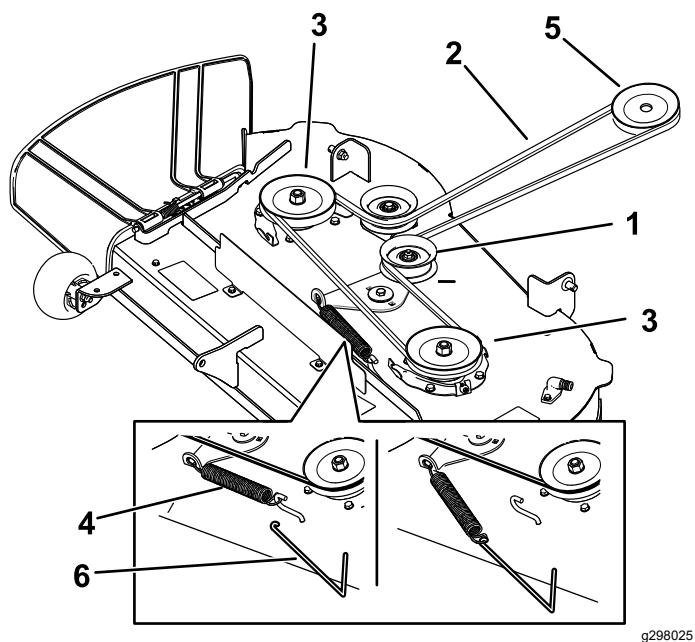
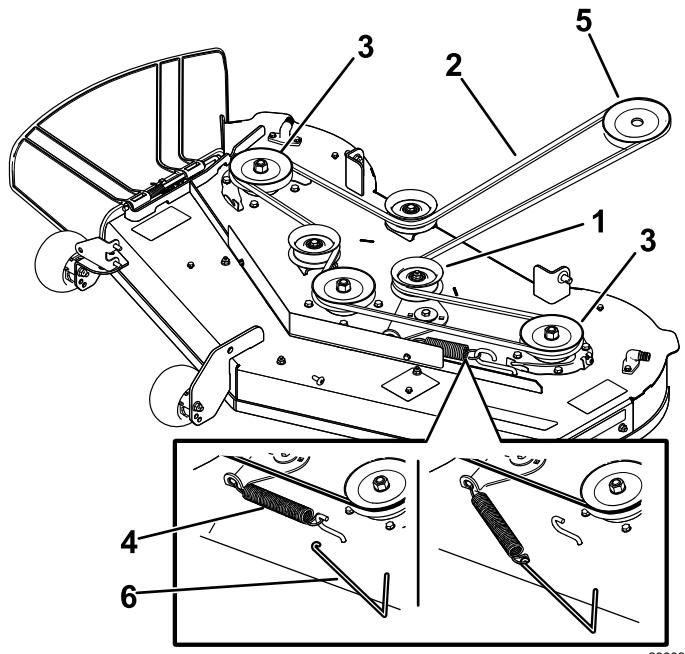

Figure 54
Figure 55
- Using a spring-removal tool (Toro Part No. 92-5771), remove the idler spring from the deck hook to remove tension on the idler pulley, and roll the belt off the pulleys (Figure 54 or Figure 55).
- 7. Route the new belt around the engine pulley and mower pulleys (Figure 54 or Figure 55).
- 8. Using a spring-removal tool (Toro Part No. 92-5771), install the idler spring over the deck hook and place tension on the idler pulley and the mower belt (Figure 54 or Figure 55).